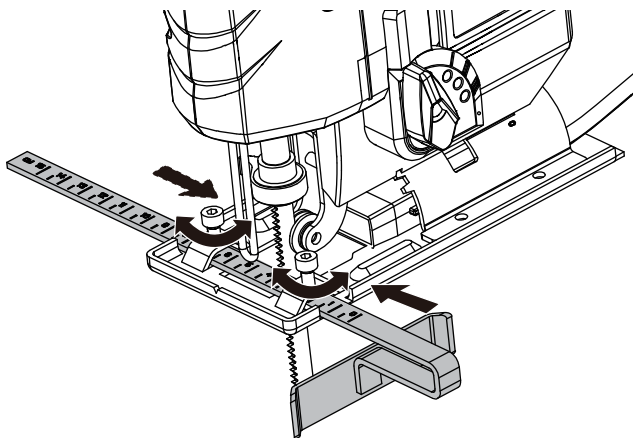

Figure 5
4. PARALLEL GUIDE FITTING (SEE FIG. 5)